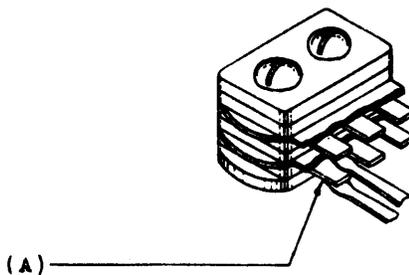

Fig. 3 - Position of the Wiper Tips on the Block Contacts
2.13 Overlap of Wiper Tips on the Block Contacts - Fig. 3 (A) - The tips of the wipers shall rest midway between the front and back of the block contacts. Gauge by eye.